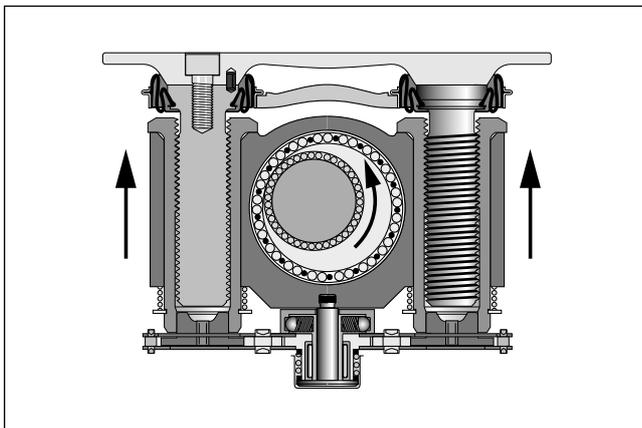

FIG. 6
- Block “lifts”, begins to move forward, carrying the adjuster sleeves and pistons (Fig. 6).